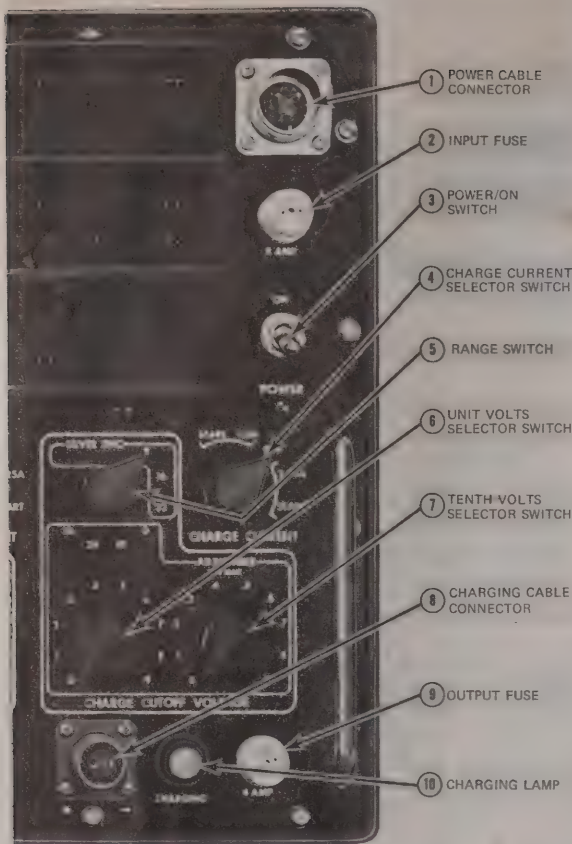

Figure 3-1. Operator Control and Indicator Locations
a. Operator Controls and Indicators. Locations of the operator controls and indicators are shown in figure 3-1. Table 3-1 provides information on the function of each of the controls and indicators. It should be remembered that the battery charger has three identical charging channels and that controls and indicators numbered 4 through 10, though shown for only one channel, pertain to all three channels.
(1) Connect the battery charger to a source of AC power (105 to 132 volts AC, 50 to 400 Hertz, single phase).
(2) Set the POWER/ON switch to ON.